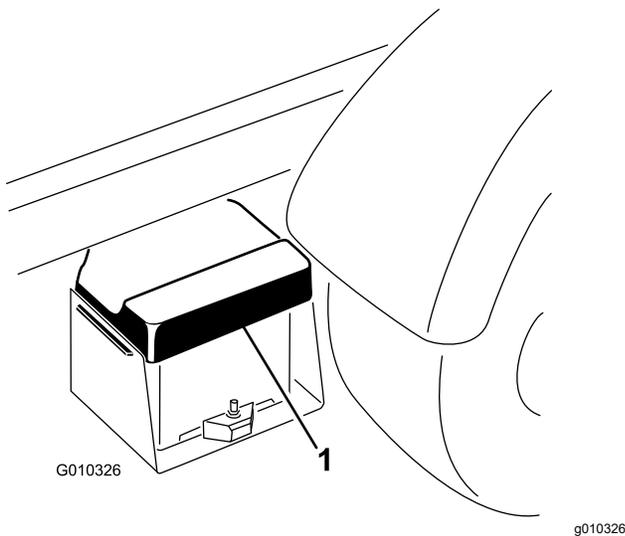

Figure 50
1. Squeeze the battery cover to release the tabs from the battery base, and remove the battery cover from the battery base (Figure 50).